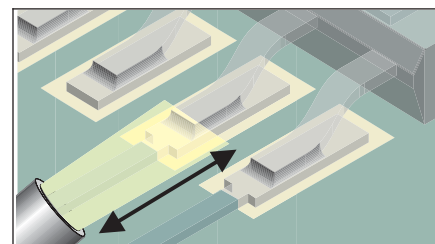

Figure 4 Melt Joints
7. When pre-drying is observed (paste has dull, flat appearance), move tip closer (0.5 cm) and heat until complete solder melt is observed. (See Figure 4.)